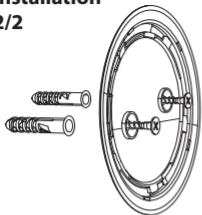

Fig. 5
5. Mount the cover on a wall (Fig. 5).